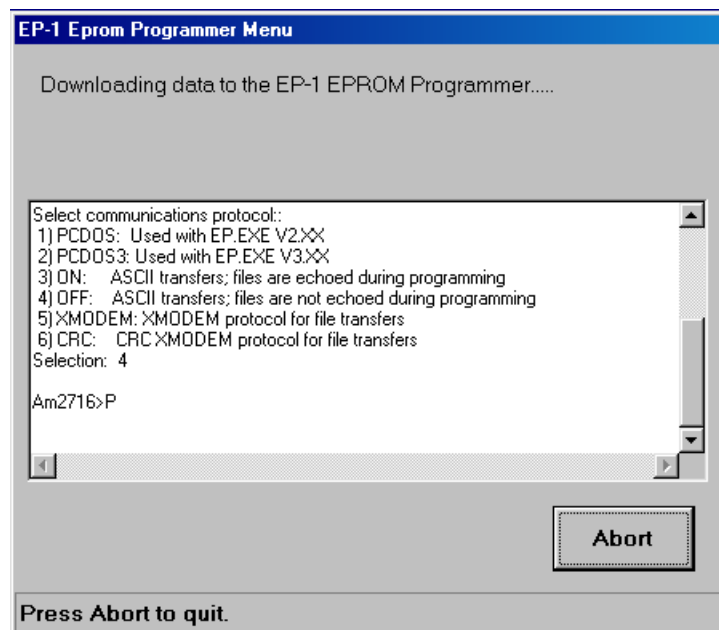

Figure 2–23. Downloading Data to the EP-1 EPROM Programmer
16. Install the freshly programmed EEPROM in the Model 3411-B scaler as shown in Figure 2–24.